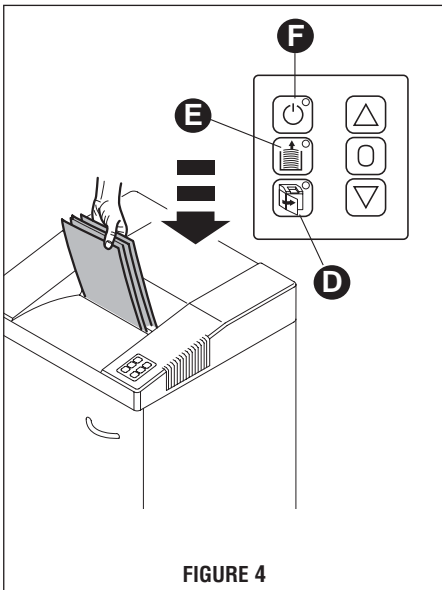

FIGURE 4
FIGURE 4. In order to prevent shreds from backing up into the cutters and jamming your shredder, this unit features an automatic bin full shut off. Once the shred bin is full, the unit will shut off automatically and the bin full light (E) will illuminate. You can now compact the shreds and continue shredding, or empty the shred bin.